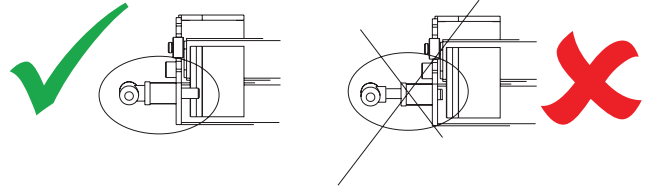

Figure 3-13
1. Fully close the T-handle. See Figure 3-13.
Be sure to stay clear of the latching mechanism to avoid personal injury. See Figure 3-13.